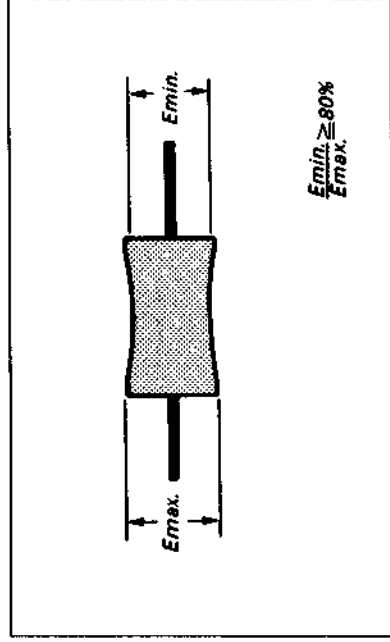

Fig. 7-80.
- 3) Confirm that the RF waveform amplitude minimum value (E min) at this time is more that 80% of maximum value (E max.). (See Fig. 7-80.)